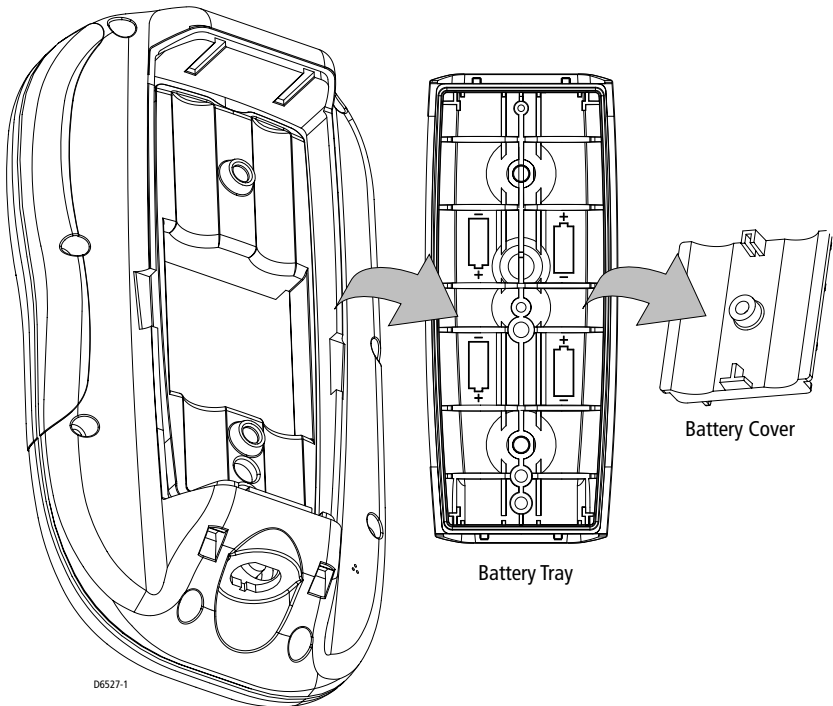

Figure 2-2: Removing the Battery Tray
1. Remove the battery tray as shown in *Figure 2-2*.
4. Noting the proper orientation shown in *Figure 2-2*, replace the Battery Cover and tighten the retaining screw.
2. Remove the battery tray as described above and in *Figure 2-2* .
2. Remove the battery tray as described above in *Figure 2-2*.